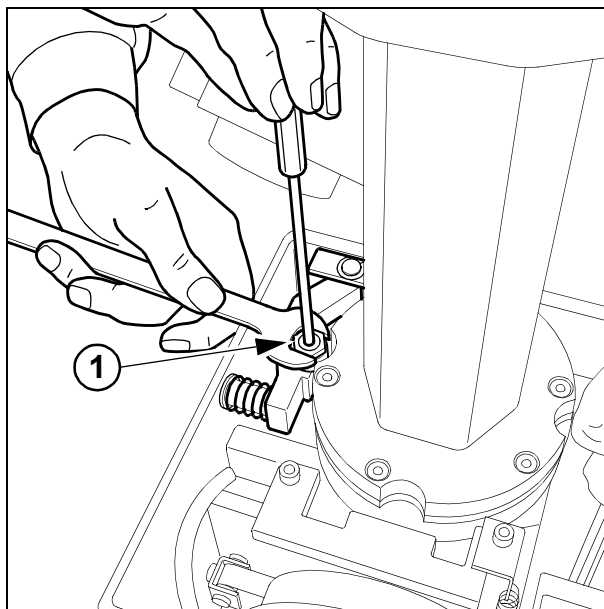

Fig. 14
- Check rotation around the vertical axis (DVA) (1/ Fig. 14).